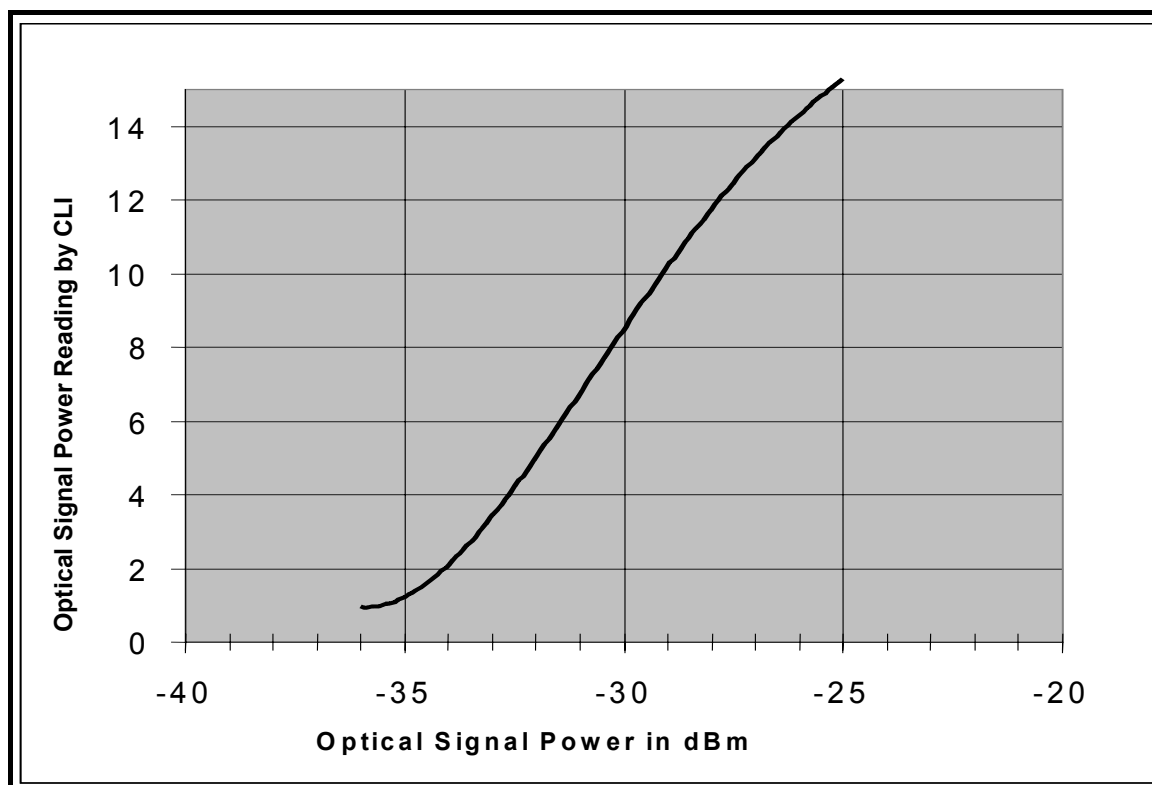

Figure 31: Conversion of Optical Signal Power Reading by CLI or MC102/P Front Panel to dBm
*Figure 31* shows how to convert the received optical signal power *reading* obtained with the CLI command `get-pal-port-optical-power`. The vertical axis shows the reading and the horizontal axis shows its value in dBm. The reading is accurate to  $\pm 1$  dB.